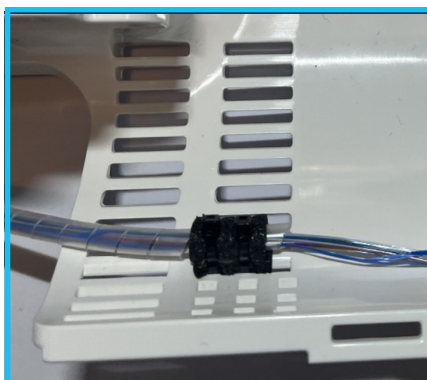

Figure 9.6
6. Secure the end of the spiral wrap using Velcro and cable ties. Three spiral wraps can be grouped together in one Velcro. **[figure 9.6]**.